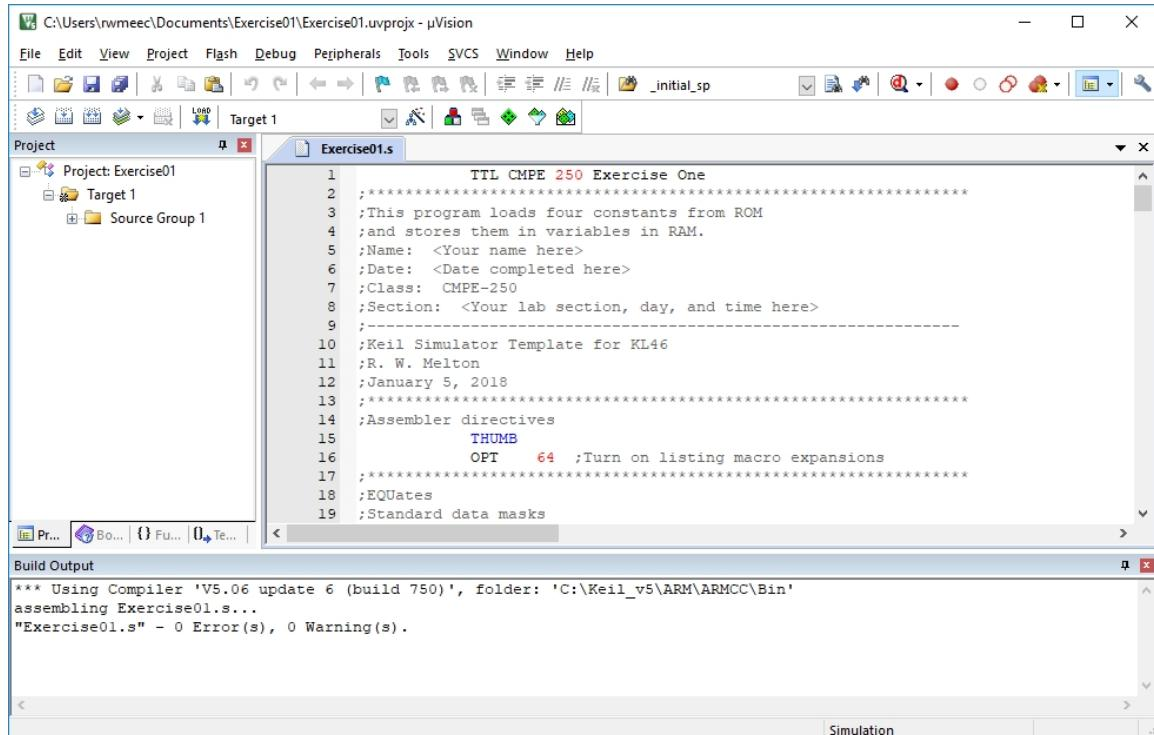

Figure 15. Project after Assembly
- c. If the next text output is "Exercise01.s" - 0 Error(s), 0 Warning(s), as in Figure 15, assembly was successful. Otherwise, any errors must be corrected before assembly can complete. Successful assembly produces an object file in the project's Objects folder and a listing file in the project's Listings folder.